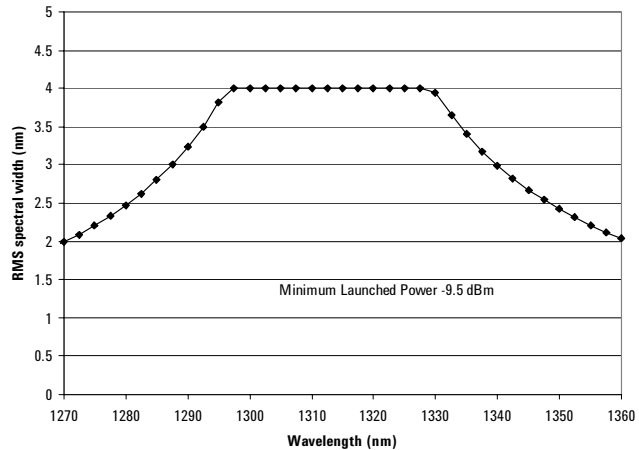

Figure 10. Maximum spectral width tradeoff curve derived from Gigabit Ethernet Link model
3. In order to meet the link power budget the transmitter can trade off OMA, spectral width and center wavelength as shown in Figure 10.